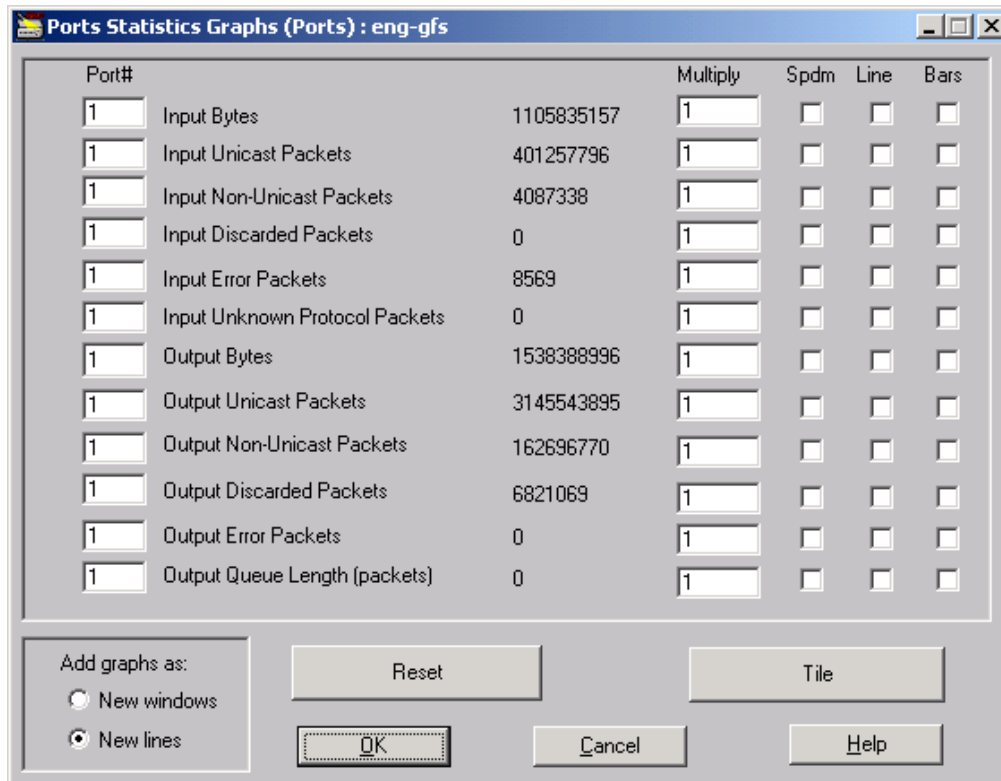

Figure 8. Graphic Support Elements in a typical graph Window
Figure 8 is an example of a window with graph support. Whenever you encounter a window with graphic support elements, counter data can be viewed as a speedometer, line or bars graph.
- different counters for different ports (figure 8, Change the port value);
**Options** - Opens the Graph Options dialog box. Please, note that these options allow you to reconfigure the Lines graph window parameters and polling interval for the parent window (see figure 8.)
1. **Polling Interval** — Changes the value for the Lines graph main window and its parent (see figure 8.)